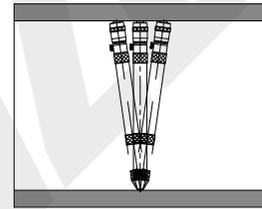

Fig.4
3. According to the measured workpiece to select extension rod (if necessary, the extension sleeve can be sleeved on the extension rod to increase the size of the extension rod), insert it into the mounting hole and clamp the slot with locking screw. Make sure there are no cutting chips or other debris on both measuring faces and workpiece surface which will affect the result. Rotate friction thimble to set its size less than the hole's diameter, and then put micrometer into the hole. Put fixed measuring face to contact the measured hole, rotate friction thimble slowly, shake micrometer gently along hole's axial and radial to find the minimum value in axial direction(Fig.4) and the maximum value in radial direction(Fig.5), then take out micrometer to get the result.